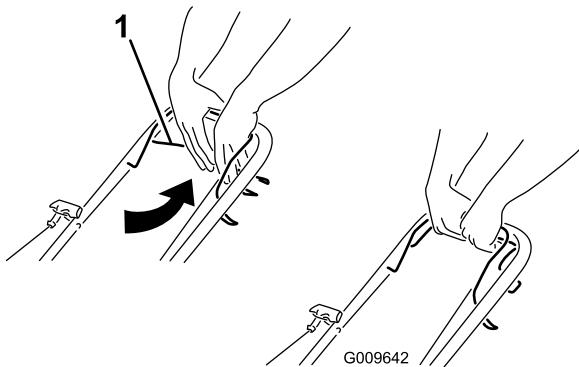

**Figure 14**
2. Pull the recoil start handle (Figure 14).
**Note:** When you pull the recoil start handle, pull it lightly until you feel resistance, then pull it sharply (Figure 14). Allow the rope to return to the handle slowly.